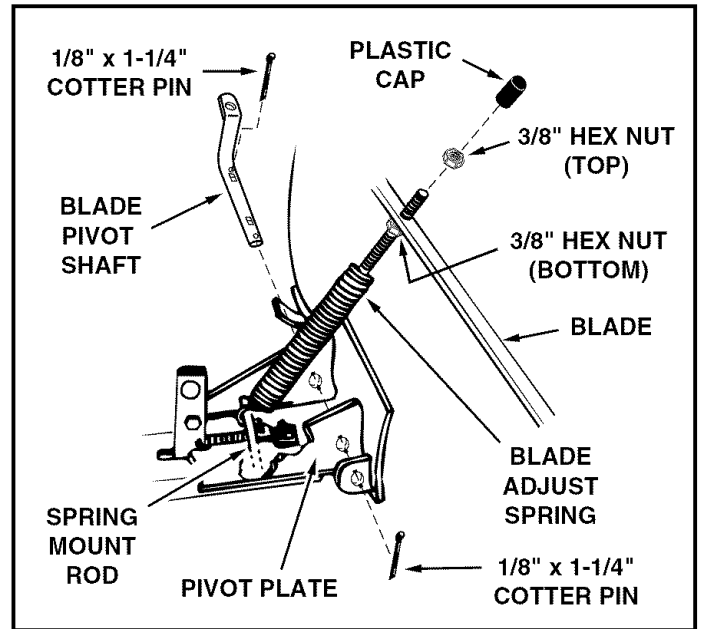

FIGURE 13 (Right Hand Side View)
- To attach the blade to the channel assembly, align the notched holes in the pivot plate with the notched holes in the blade. Insert a 1/8" x 1-1/4" cotter pin down through the hole at the bend in the blade pivot shaft. Spread the ends of the pin. From the left side insert the blade pivot shaft, bend facing up, through the notched holes. Secure the shaft with another 1/8" x 1-1/4" cotter pin through the end hole in the shaft. Spread the ends of the pin. See figure 13.
- Remove the plastic cap and one 3/8" hex nut from the bolt in the blade adjust spring. Adjust the remaining 3/8" hex nut down approximately 1" onto the bolt threads. Hook the spring over the spring mount rod as shown in figure 13. Place the bolt up through the hole in the top edge of the blade and reassemble the other 3/8" hex nut and tighten down against the top edge of the blade. Replace the plastic cap over the end of the bolt threads. See figure 13.
- The tension of the blade adjust spring may be altered to permit the blade to tilt forward to bypass solid obstructions. To change the spring tension, adjust the nuts at upper end of the spring bolt. Turn the nuts counterclockwise to relieve tension and clockwise to increase tension. Refer to figure 13 on page 8.